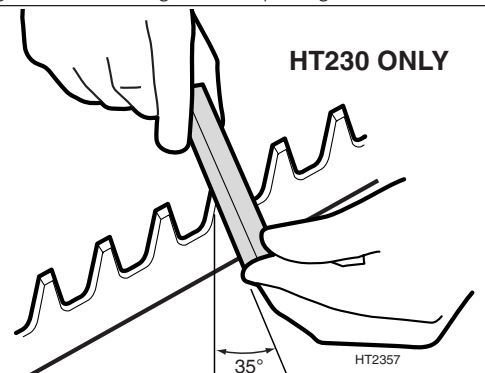

Figure 38. Beveling the cutter tips.
- STEP 4. HT230 ONLY.** Use a rough grinding stone held at a 35° angle to restore the original bevel to the cutter tips (Figure 38).